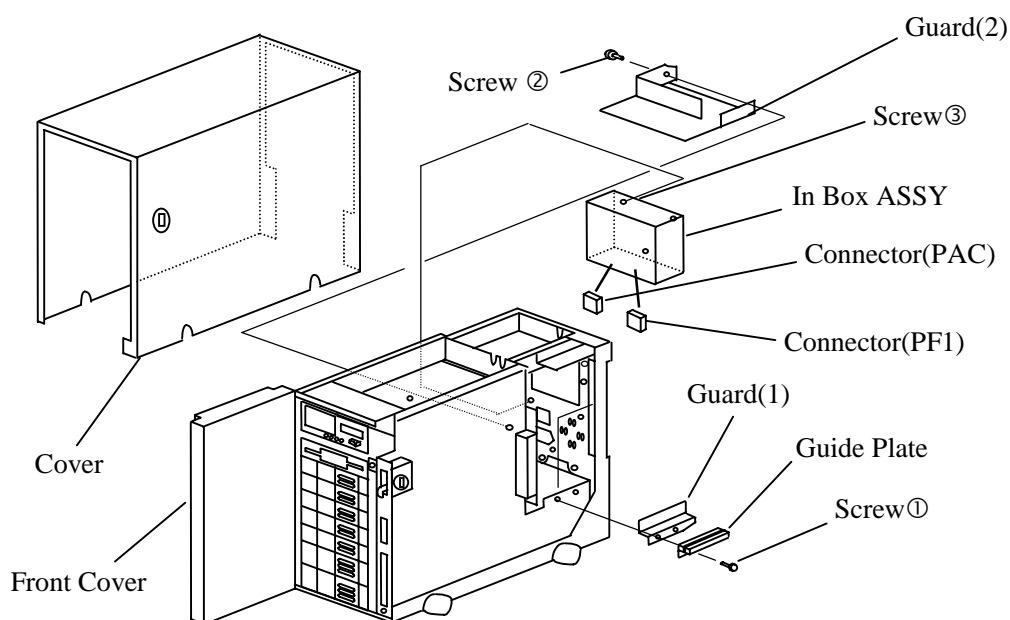

Figure 13. Replacement In Box ASSY
13. Replacing the In Box ASSY (See Figure. 13.)